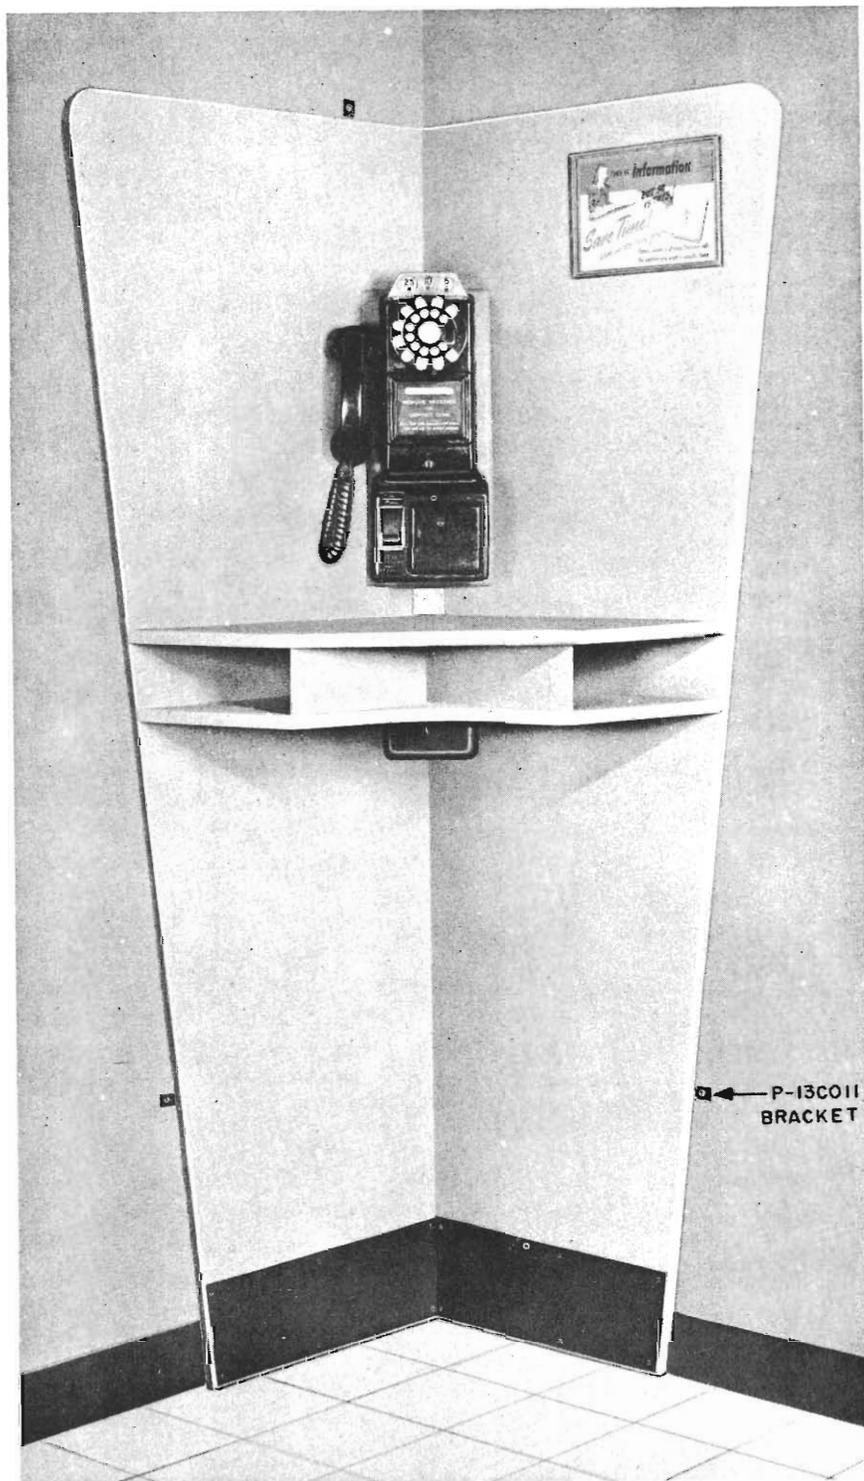

Fig. 3 — Corner Mounted, 20-Type Shelf
- Singly, Fig. 3.
- **In a corner** (Fig. 3), one bracket is used to fasten the top to the wall and two brackets for fastening the bottom.